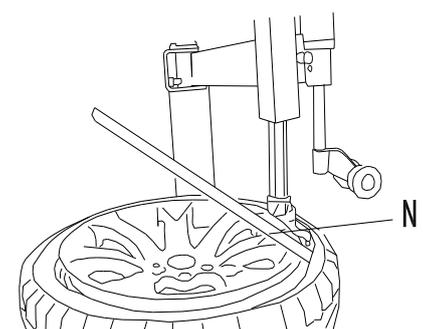
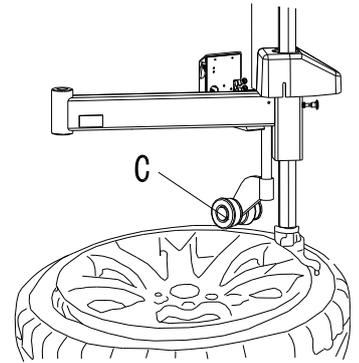

Fig 24
Fig 25
3. Nearby demounting/mounting head, insert lift lever N into tyre, use lift lever to lift bead upon knob of demounting / mounting head. Fig24 Manually rotate roller C to inner side, pull handle D down, make roller C to press rim , keep 3-5mm gap between demounting/mounting head and rim, make sure demounting/mounting head not damage rim, rotate turntable, demount tyre upper bead ( Fig 25)